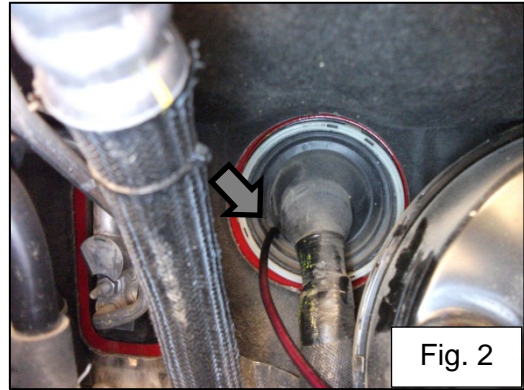

Fig. 2
4. Make a small incision in the grommet on the driver side of the firewall and pass the power harness into the cabin. Fig. 2